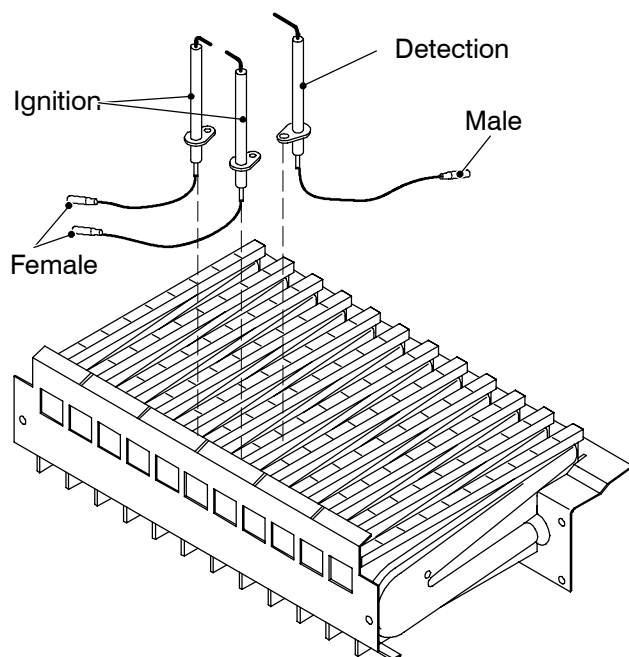

Fig. 81
- 7 Assemble the electrodes carrying out the removal operation in reverse order. Refer to Fig. 81 in order to recognise the electrodes and to correctly connect the wiring.